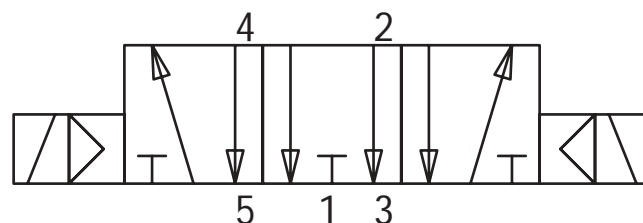
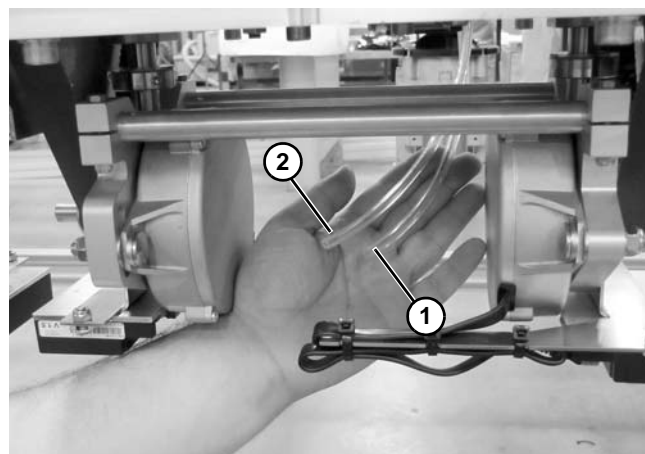

Figure 35
Figure 37
Dorner recommends using a 5 port, 3 way, exhaust center solenoid valve (**Figure 35**) to operate unit.
1. Connect port 4 (**Figure 35**) of the 5 port, 3 way valve to the lower port (**Figure 37, item 1**) on the lift. Dorner fittings accept 1/4" outside diameter tubing standard.
2. Connect port 2 (**Figure 35**) of the 5 port, 3 way valve to the top port (**Figure 37, item 2**) on the lift. Dorner fittings accept 1/4" outside diameter tubing standard.